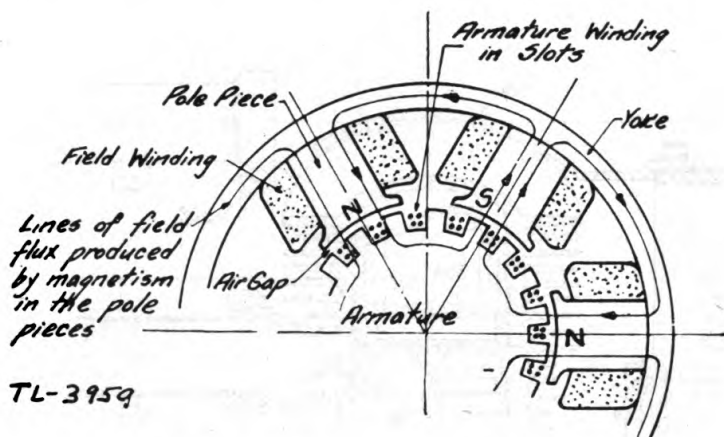

FIGURE 11.—Generator armature and field windings.
h. Figure 11 shows the principal parts of a generator and illustrates the function of the armature and field windings. The lines of field flux pass from a north pole through the air gap between the armature and field pole, through the armature, back through the air gap into a south pole, and through the yoke back to the starting point. As the armature rotates, the armature windings cut through these lines of flux, thereby generating a voltage in the armature windings.